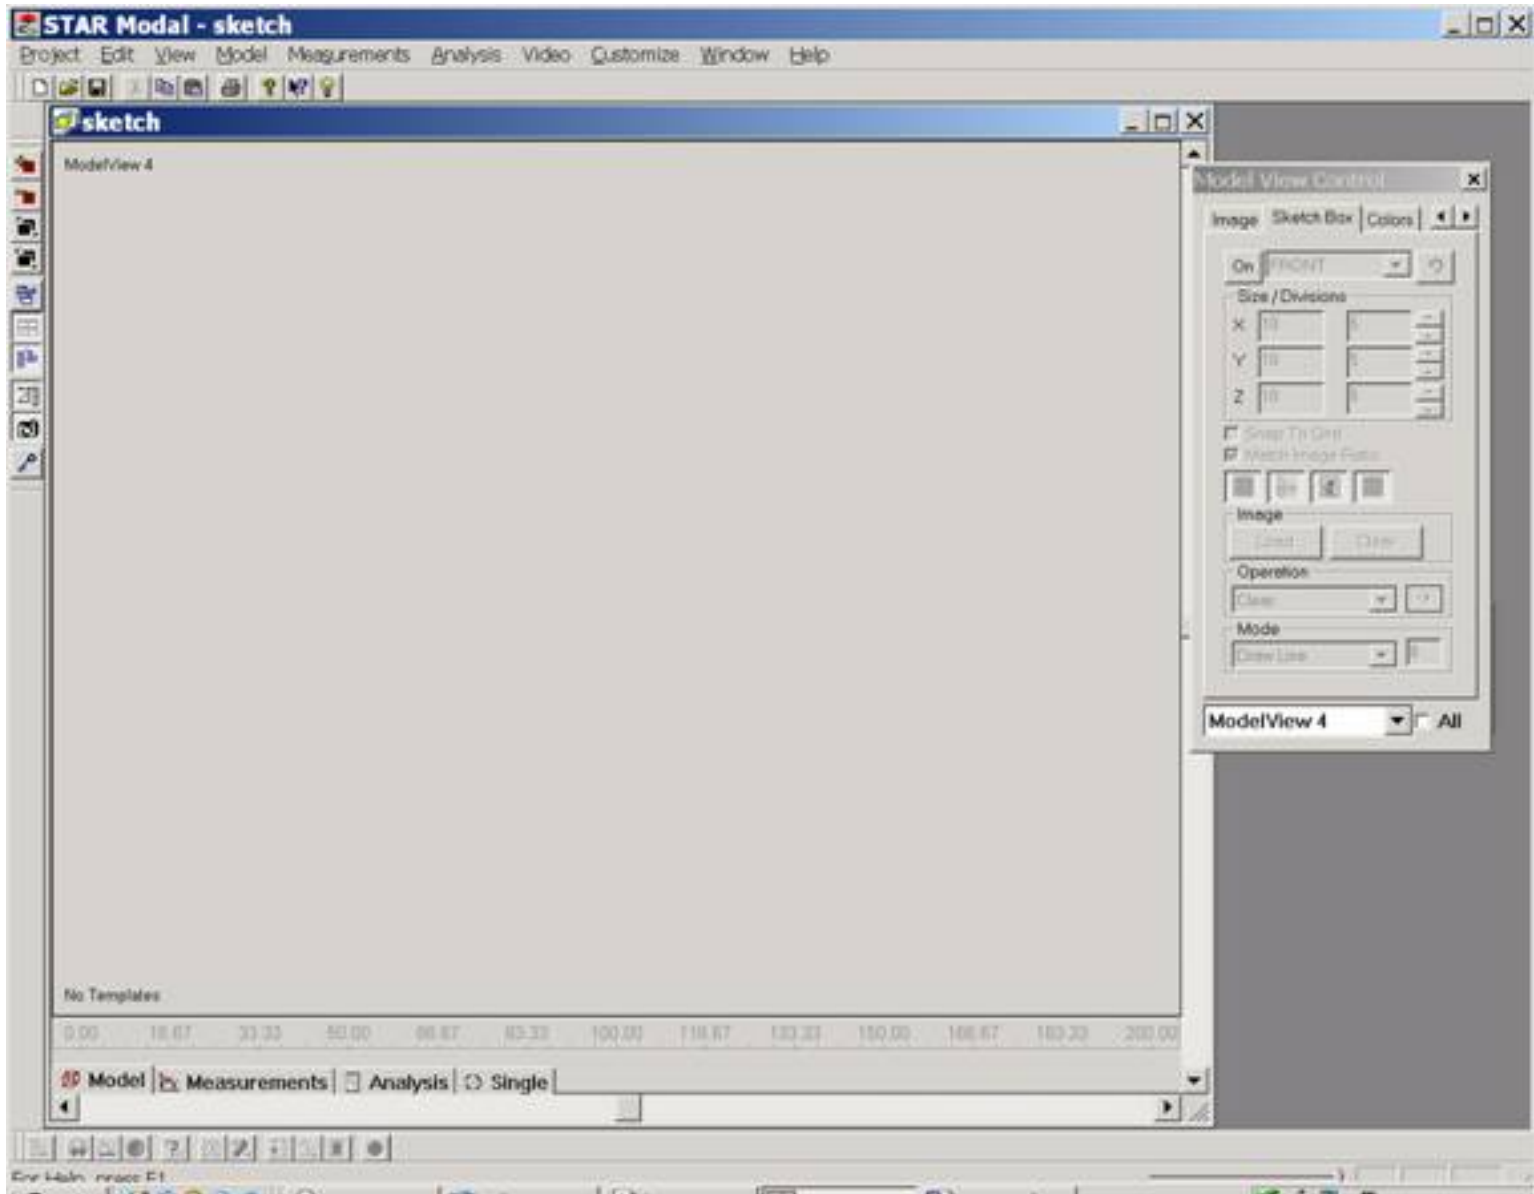

Figure 5
4) Click the down arrow in the drop down list and select ModelView 4. Once, this occurs the Model View Control dialog will be enabled, see Figures 5 and 6.